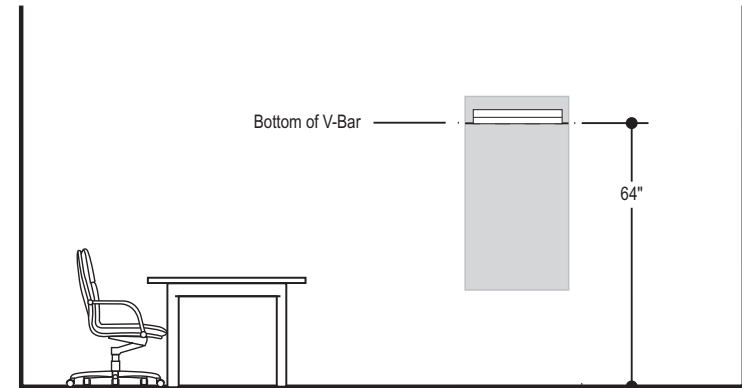

Figure 6
- Measure in one corner of your room 64" up from the floor as shown in fig. 6. At this point attach the end of the included string with a thumbtack or small brad.